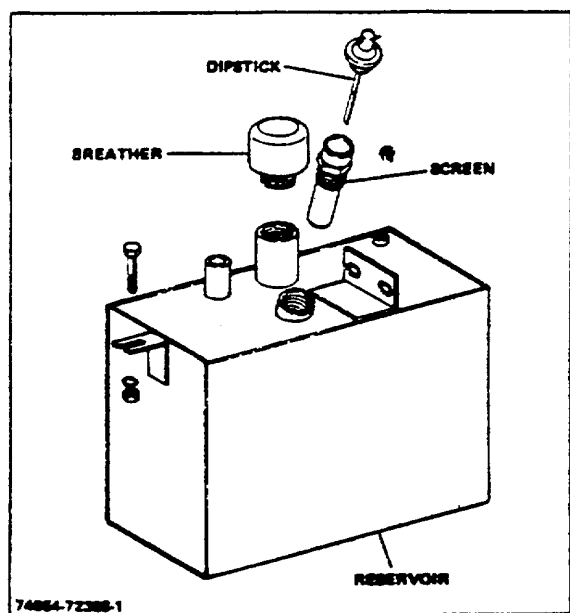

Figure 1-5. Hydraulic 01I Reservoir Components
3. After oil has drained, flush inside of reservoir with a suitable cleaning solvent and clean the screen (Fig 1-5) in the reservoir filler opening.